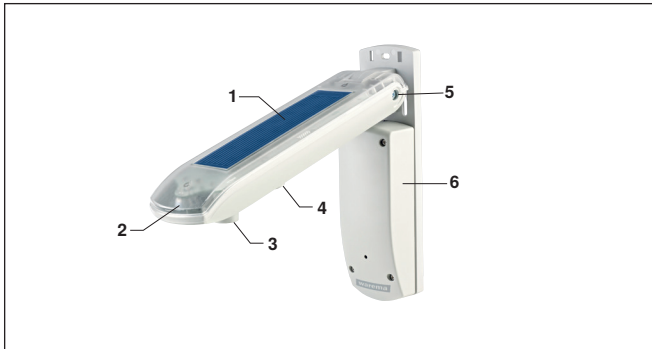

Fig. 1 WMS Weather station plus
- Install the device in a position in which the wind current sensor is preferably positioned horizontal (housing inclination of 15°). When installing the device on sloped surfaces, the sensor can be positioned horizontally using the joint (Fig. 1).